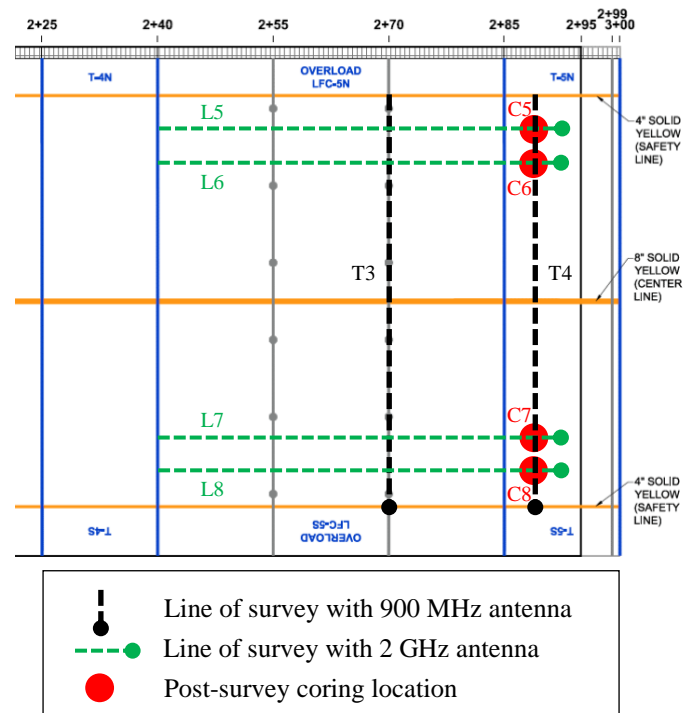

Figure 2. GPR Survey Layout and Coring Locations on LFC-5N and -5S + Transition Area (T-5N and -5S)
- (ii) Thin P-401MR: ‘LFC-5N and -5S + Transition Area, T-5N/-5S’ (see Figure 2).